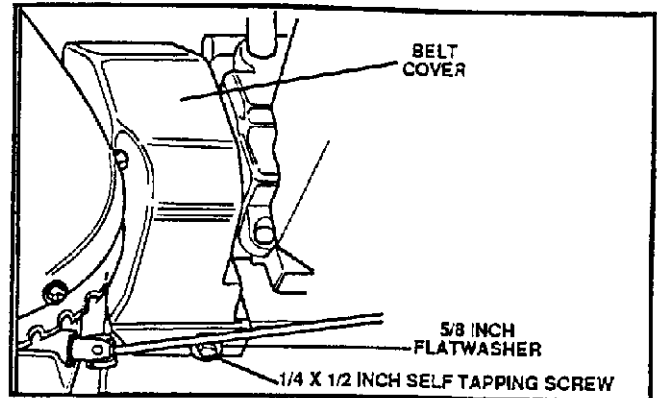

FIG. 7-SERV & ADJ
- Remove the belt cover (See FIG. 7-SERV & ADJ).